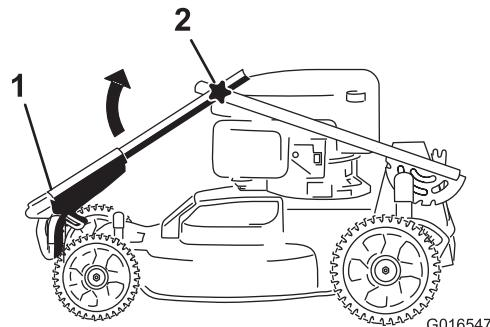
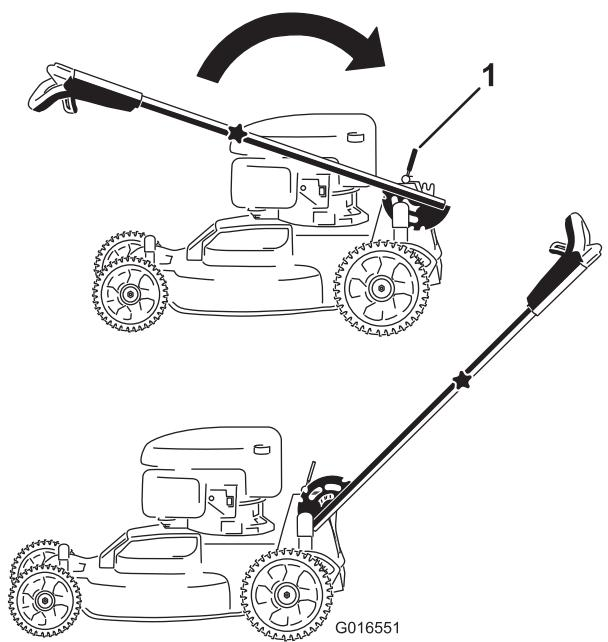

Figure 3
Figure 4
- Rotate the upper handle so that it nests together with the lower handle (Figure 3), and tighten both knobs on the handle to lock the upper handle in place (Figure 4).
2. Release the handle-lock lever (Figure 4).
3. Pull the handle rearward and lock it into position (Figure 4).